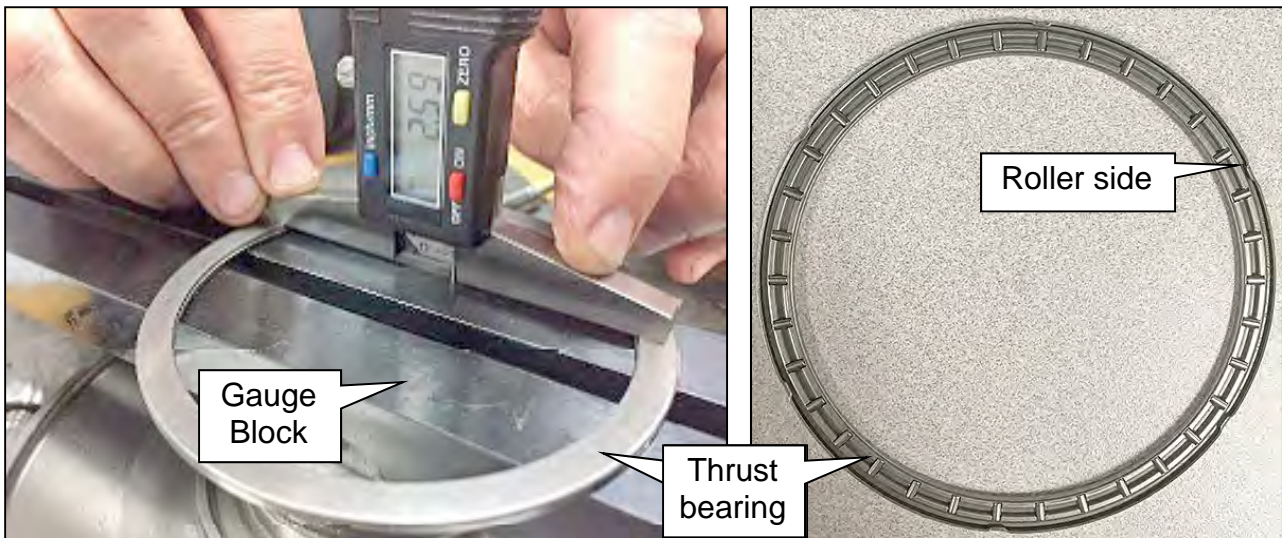

Figure 149
- a. Place the thrust bearing roller side down on the Gauge Block (Figure 149).